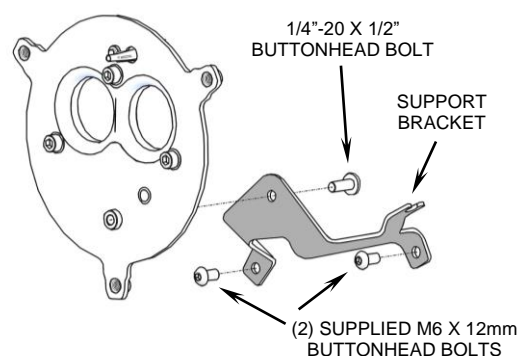
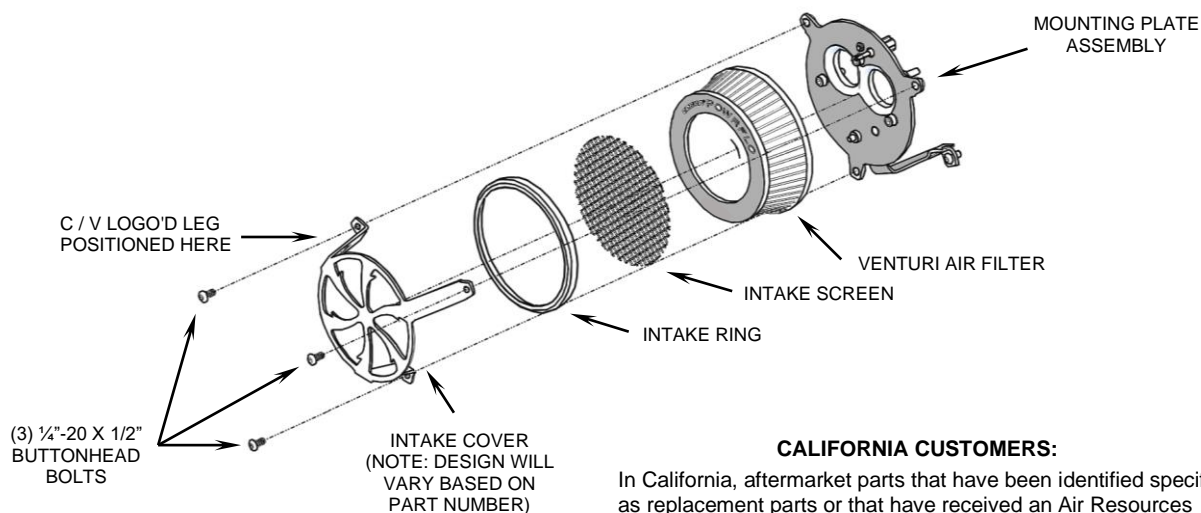

FIGURE 4
FIGURE 5
8. Install the supplied support bracket to the two threaded bosses near the base of the cylinders using the (2) supplied M6 x 12mm buttonhead bolts. Secure the support bracket to the mounting plate using (1) supplied 1/4"-20 buttonhead bolt, and finger tighten. See Figure 4.
9. Fully tighten the (3) M6 x 25mm allen bolts, from Step 7, followed by the support bracket bolts, from Step 8.
11. Insert the round intake screen into the chrome ring so the screen sits inside the edge of the ring. Place the ring and screen between the legs of the naked chrome intake cover as shown in Figure 5.
12. Place the naked intake cover, ring and screen assembled in Step 11, over the air filter and align each leg to the base mounting plate threaded holes. Be sure screen sits at a 45 ° angle to the bottom leg, and C/V logo'd leg is at the upper left position. Insert the (3) supplied 1/4"-20 x 1/2" buttonhead bolts through the intake cover and into the base mounting plate, see Figure 5. Double check all parts are aligned properly and tightened securely.